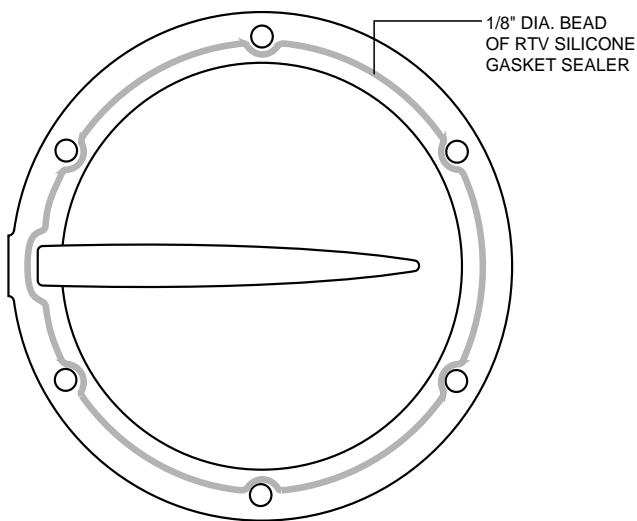

Figure 7 Bottom Cap
1. Apply 1/8" (3 mm) diameter bead of RTV silicone gasket sealer to flange of bottom cap. Bead to be centered on flange, and to be inside of and adjacent to bolt holes (see Figure 7).